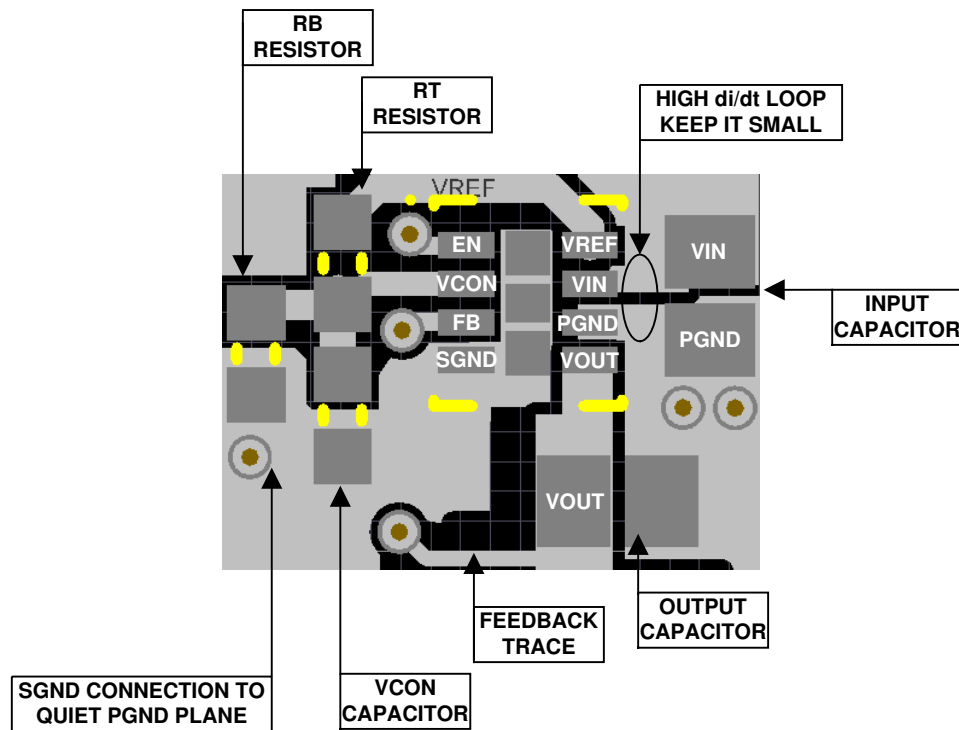

图 8-26. Example Top Layer Board Layout
The LMZ10501 integrates the inductor and simplifies the DC/DC converter board layout. Refer to the example layout in 图 8-26. There are a few basic requirements to achieve a good LMZ10501 layout.
2. Place the VCON filter capacitor C_{VC} and the R_{B} R_{T} resistive divider as close as possible to the VCON and SGND pins. The C_{VC} capacitor (not R_{B}) must be the component closer to the VCON pin, as shown in 图 8-26. This allows for better bypass of the control voltage set at VCON.